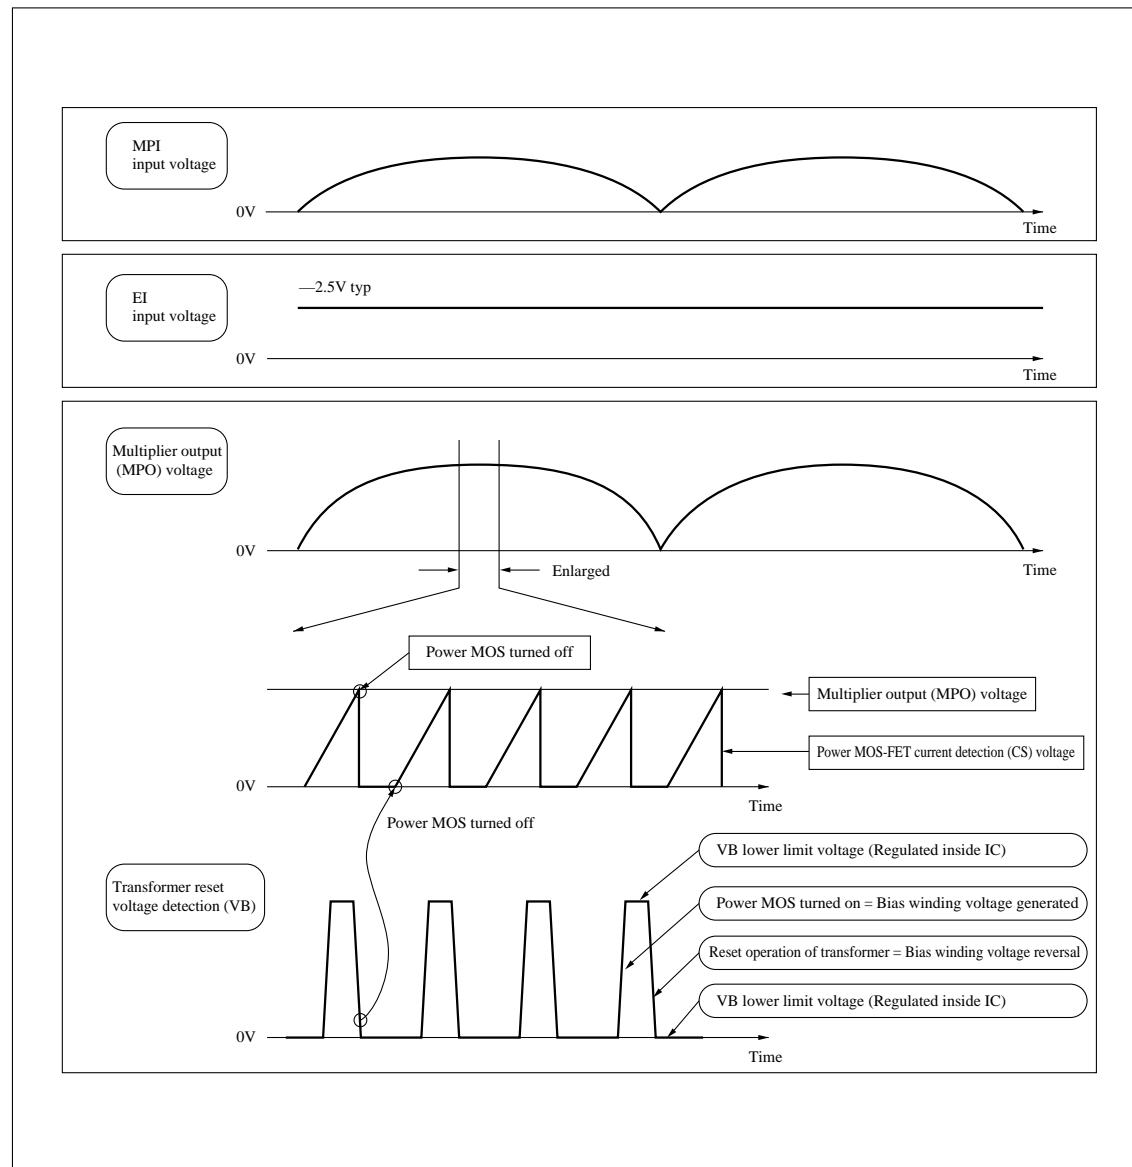

Fig.2 Normal Control Operation
## (2) Control Outline (Refer to Fig.2 and 3)